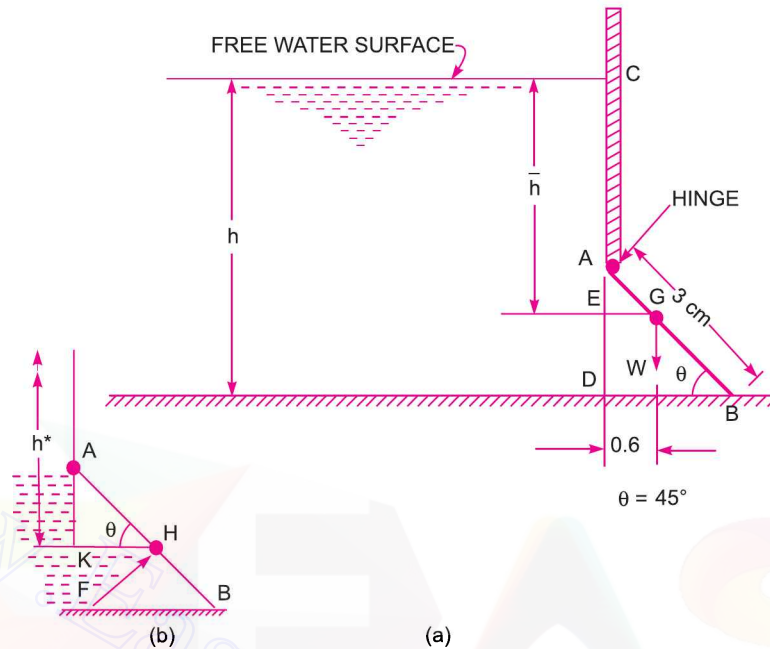

Fig. 3.25
**Problem 3.20** A rectangular sluice gate AB, 2 m wide and 3 m long is hinged at A as shown in Fig. 3.25. It is kept closed by a weight fixed to the gate. The total weight of the gate and weight fixed to the gate is 343350 N. Find the height of the water 'h' which will just cause the gate to open. The centre of gravity of the weight and gate is at G.
From Fig. 3.25 (a),
The total force  $F$  is acting at the centre of pressure as shown in Fig. 3.25 (b) at  $H$ . The depth of  $H$  from free surface is given by  $h^*$  which is equal to
$$\left[ \text{From } \triangle AKH, \text{ Fig. 3.25 (b)} \quad AK = AH \sin \theta = AH \sin 45^\circ \therefore AH = \frac{AK}{\sin 45^\circ} \right]$$